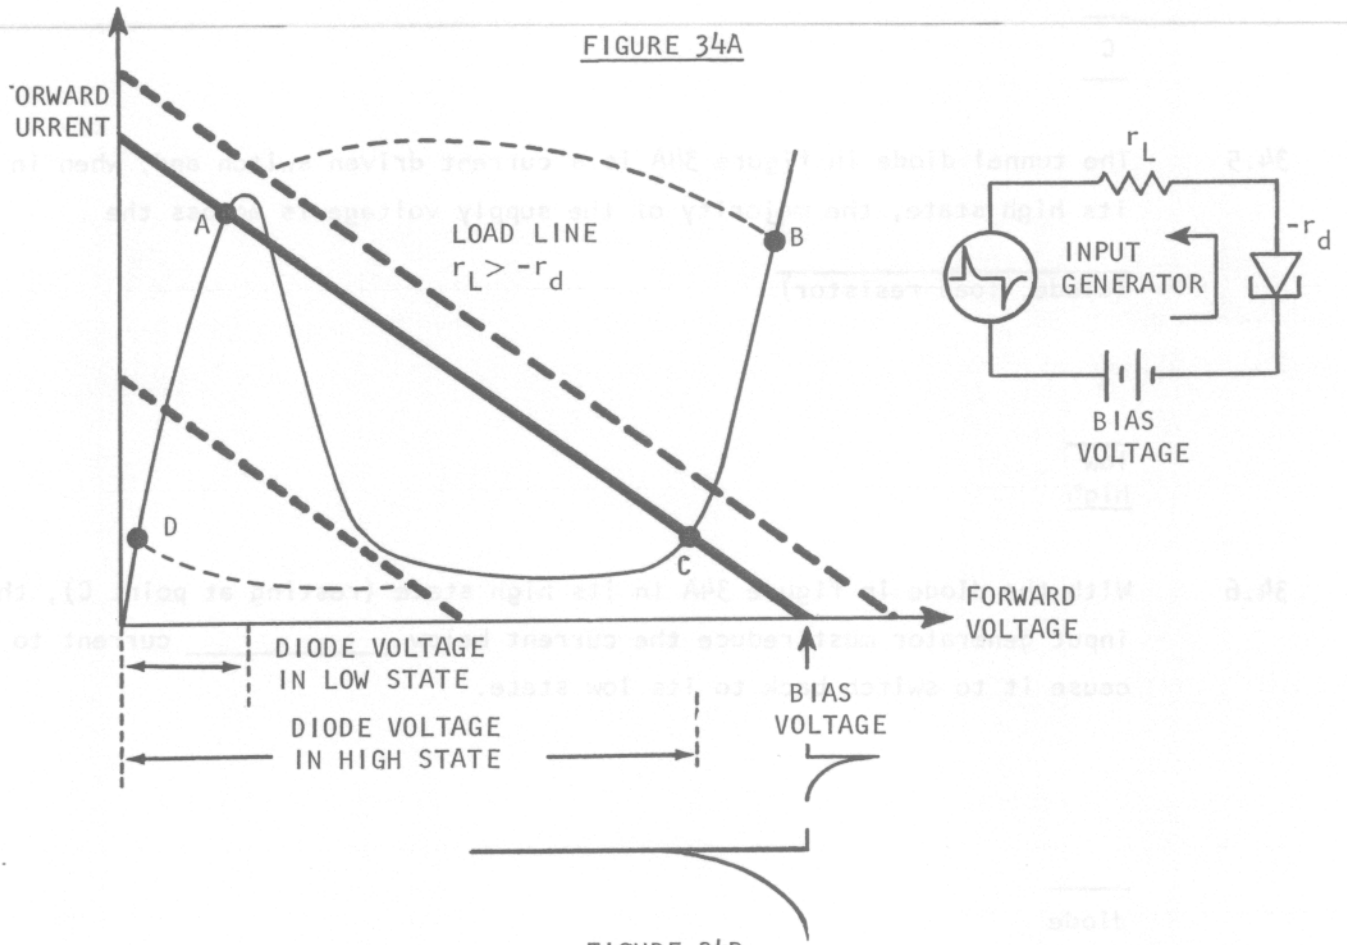

FIGURE 34B
34.8 Figure 34B is a voltage driven, bi-stable switch in that it is driven by _____ changes and has _____ stable states.